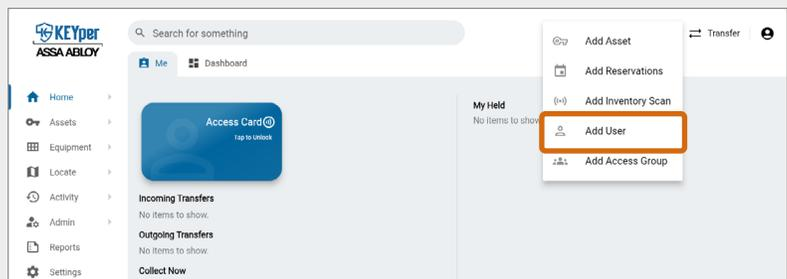

Fig. 99 – Home screen with Add User indicated (KEYper GO Web)
2. Select **Add** , then select **Add User**, as shown in Fig. 99.